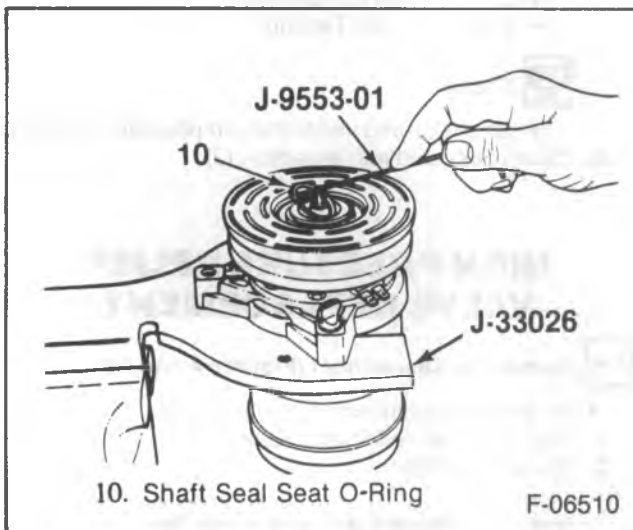

Figure 24 — Removing the Shaft Seal Seat O-Ring
4. O-ring seal (10) using J 9553-01 (figure 24).